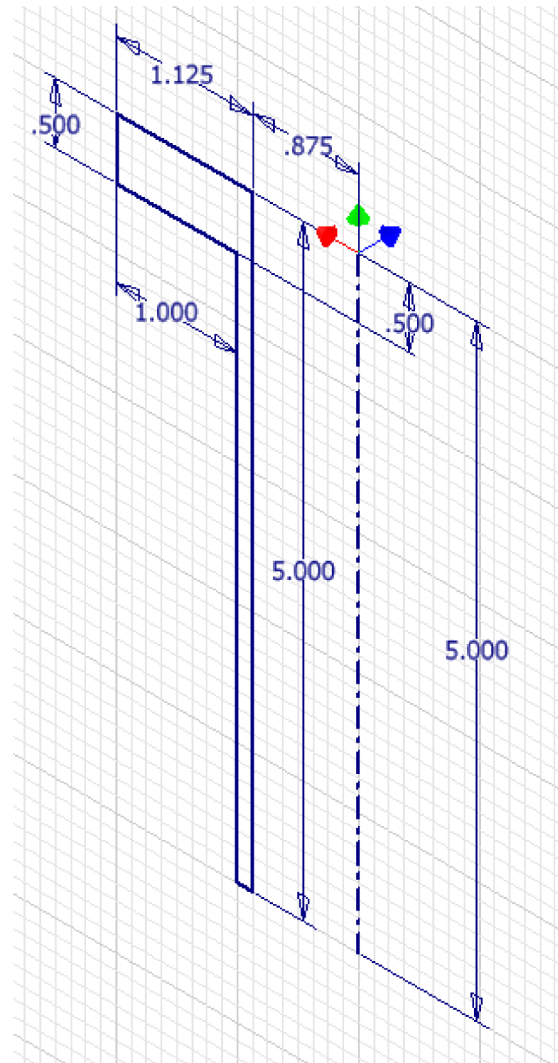

Figure Step 5A
**Step 5** Draw and dimension one-half of the Front view as shown in the figure. (Figure Step 5A and 5B)